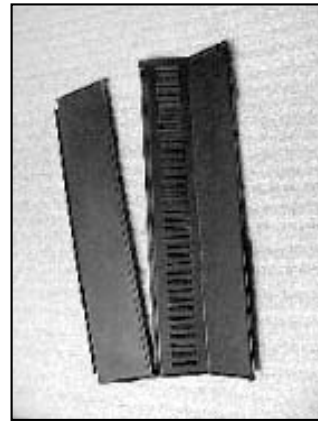

Figure 21.3
2. Set the large hole at bottom of side curtain over screw installed in **Figure 21.2**. Stand assembly on end and attach and install (1) 8-32 x 3/8” screw through tab in side panel and curtain. Lay face down as shown in **Figure 21.3**
4. Install (2) 8-32 x 3/8” screws through holes in side panel into top panel. Complete for both sides.